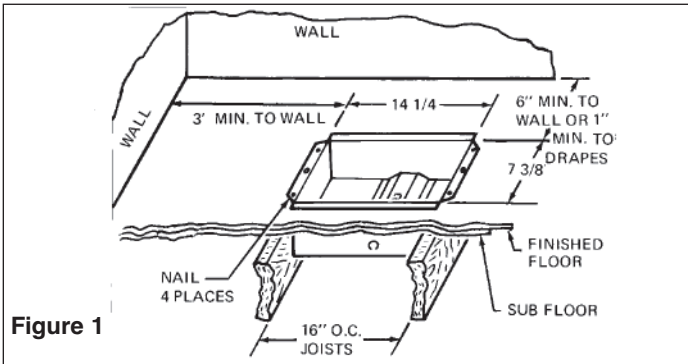

Figure 1
1. Provide a hole 7-3/8" by 14-1/4" (187mm by 362mm) in floor at least 6" (152mm) from the wall with the longest side parallel to the wall as shown in Figure 1.